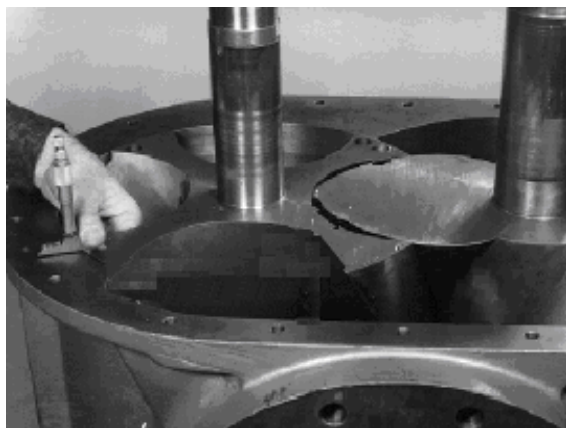

FIGURE 7- 9 – DEPTH MICROMETER
9. With a depth micrometer (FIGURE 7- 9, page 43), measure the distance from the end of the rotor lobes to the end of the housing. Rotate rotors to check each lobe and record the **largest micrometer reading**. If the measurement varies more than .005", remove the rotors and check for burrs on the gear end carrier face and the end of the rotors. To the largest micrometer reading add the Total End Clearance shown in the clearance chart, (FIGURE 7-8, page 43), plus, .002" for crush fit, to determine the thickness of the shim set.